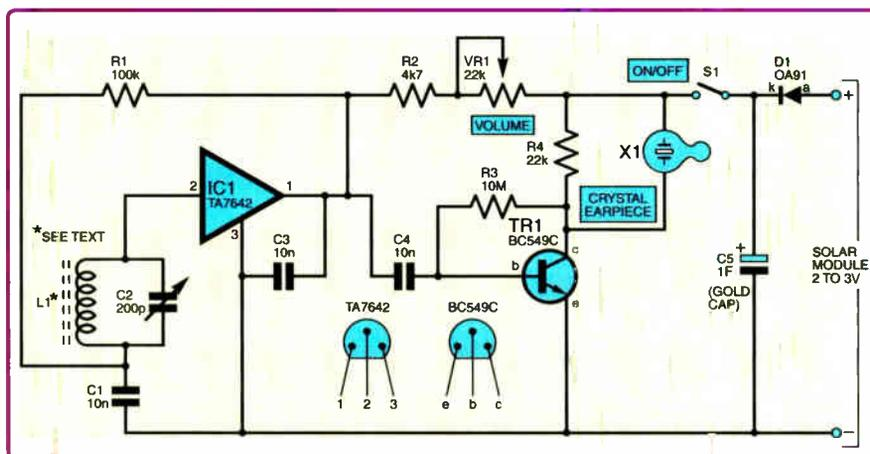

Fig. 1. Complete circuit diagram for the Solar Powered Radio
So a back-up supply is often needed, and in Fig.1 this is provided by the solar panel (not shown) and the 1F gold cap capacitor C5. This capacitor charges up continuously in normal lighting conditions and if the radio is kept near a window with the solar panel facing the light, it should always be well charged and ready for use at any time.
**Fig.1:** most stepper motors that can be salvaged from old equipment use this type of wiring configuration. Finding out which wire is which can be done with a multimeter.